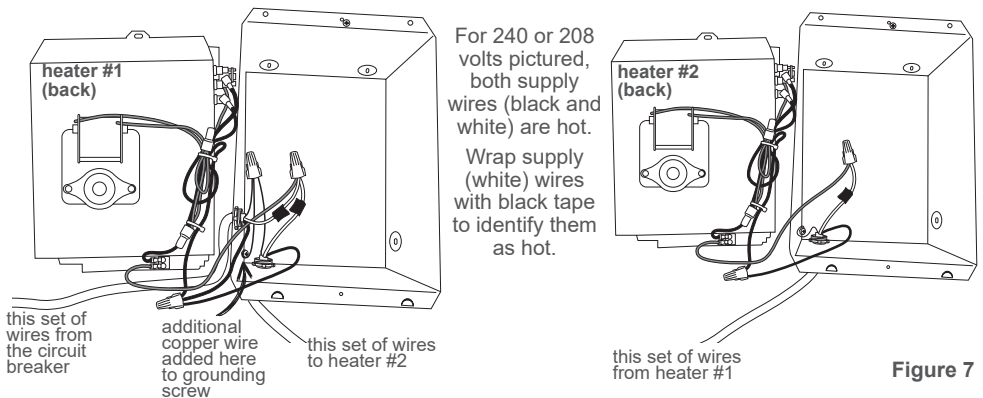

Figure 7
1. Route the electrical supply wire from the circuit breaker to heater #1. Remove two knockouts and attach two sets of electrical supply wire with two cable clamp connectors (not included) leaving a minimum of 6 inches wire lead—one set from the circuit breaker, the other set to heater #2 (See Figure 7).
2. The two supply ground wires in the wall can of heater #1 need to make a 3-wire connection with the grounding screw. Attach a short copper ground wire to the grounding screw in the wall can. Connect this wire and the two supply ground wires with a wire connector (not included) (See Figure 7).